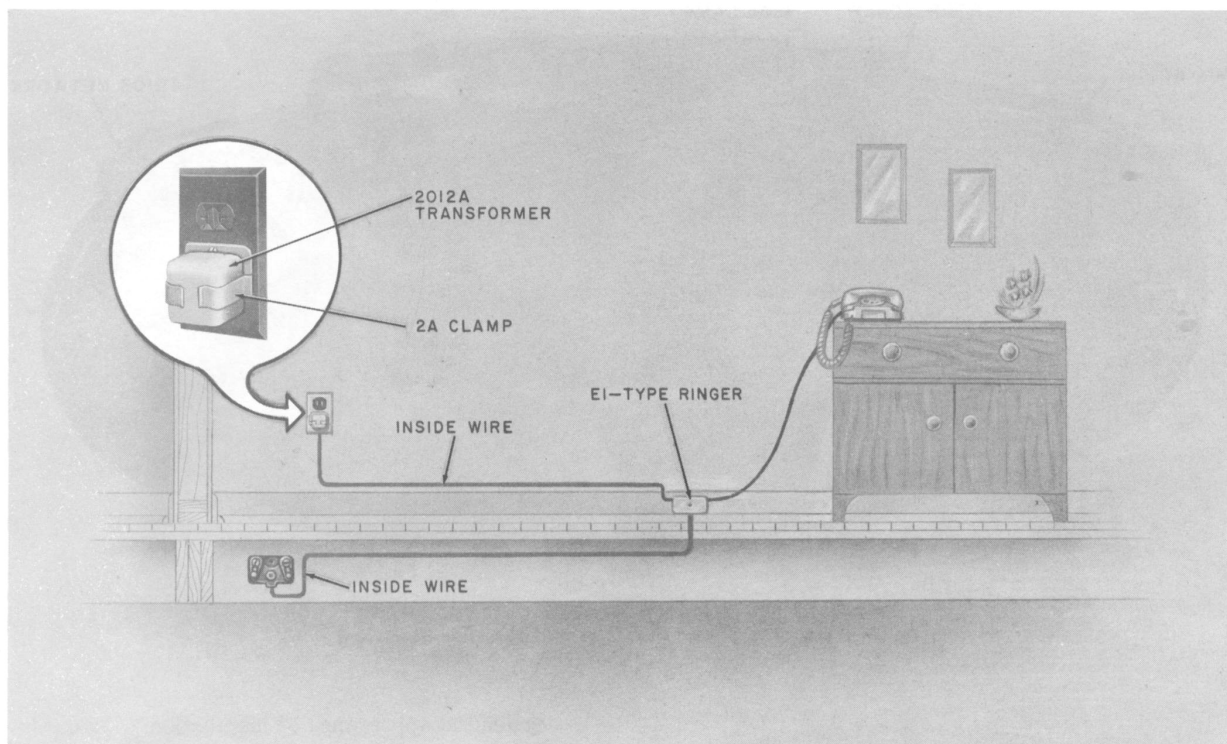

Fig. 6—Typical Installation of 700-Type Telephone Sets With External Ringer
respectively, are not equipped with internal ringer. When a ringer is required, an E1-type external ringer (Fig. 6) may be used.
2.11 The 713B telephone set is not equipped with an internal ringer. When a ringer is required, an E1-type external ringer (Fig. 6) may be used.